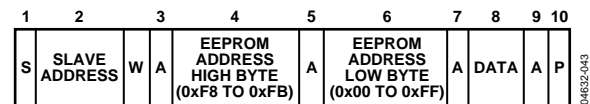

Figure 46. Single Byte Write to EEPROM
- To write a single byte of data to EEPROM. In this case, the command byte is the high byte of the EEPROM addresses from 0xF8 to 0xFB. The first data byte is the low byte of the EEPROM address, and the second data byte is the actual data, as shown in Figure 46.